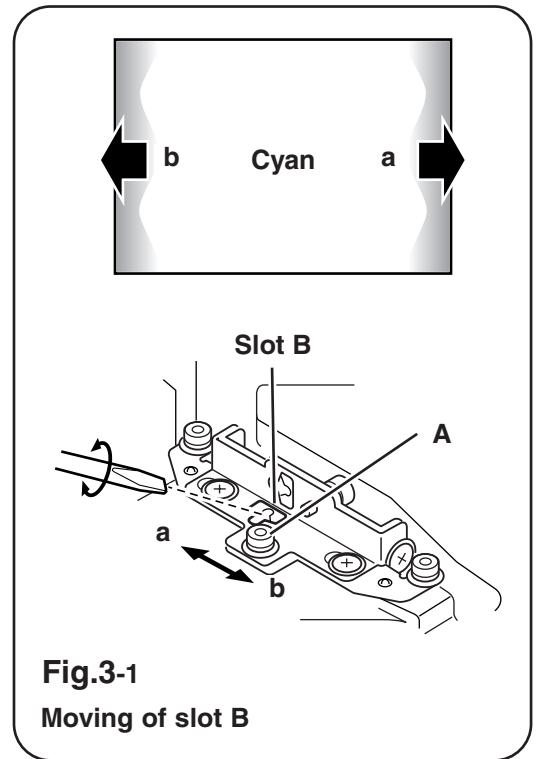

Fig.3-1
- 1) If the shading appears on the left or right of the screen as shown in **Fig.3-1**, loosen 1 screw **A** with the 2.0mm hex driver, and adjust the slot **B** to make color uniformity in cyan by using a slot screwdriver.